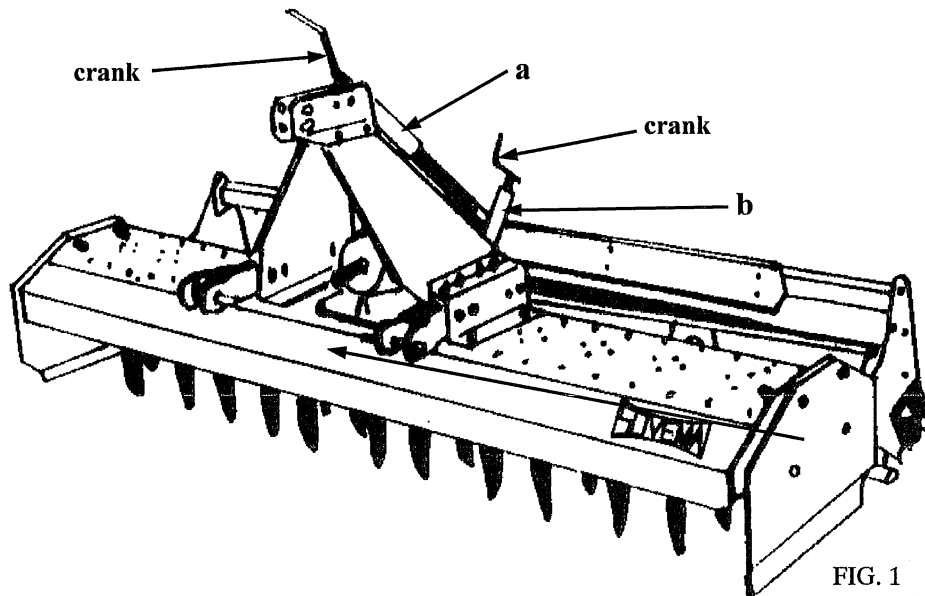

FIG. 1
Working inclination of PTO driveline must not exceed 25° (see fig.1). Greater working angles will damage the PTO and serious personal injury could occur as well.
Connect the hitch of the drawbar to the tractor using a hitch pin and the hair clip pin (see fig. 1).
Connect the third point of the tractor to the upper plates of the machine using a hitch pin and the hair clip pin (see fig. 1). By means of the tie rod of the hitch point, which permits regulation of the machine's inclination, set the machine even to ground-floor (see fig. 3). This procedure extends life time of the PTO shaft and the machine.
To set the machine's working depth, adjust the rear roller rotating the crank of its register screw, as in figure 1:
- Unblock the screw register crank (b of fig. 1) of the level bar by taking out the stop mechanism of the crank itself;
- Check for loose bolts that fix the blades to the rotor. Tighten as needed (see fig. 1).
- Grease the two bearings of each rotor shaft through its relative grease nipple located on the lid of the machine (see fig. 1). Proceed after cleaning each grease nipple for more efficient lubrication. Use lithium grease type: NLGI 2.